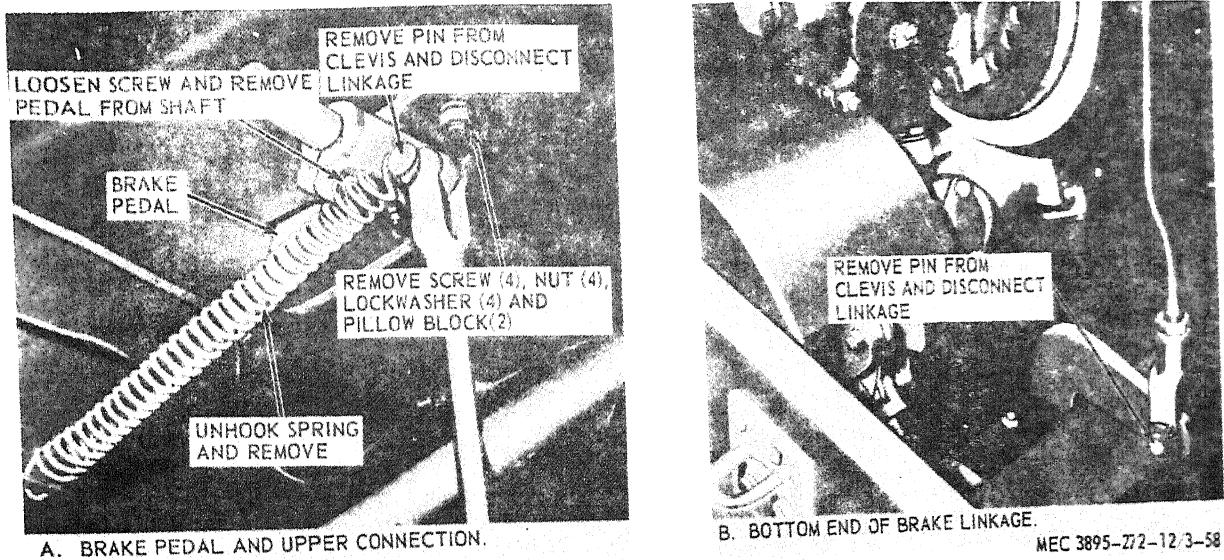

Figure 3-58. Service brake pedal and linkage, removal and installation.
a. *Removal.* Remove the foot brake pedal and linkage as instructed on figure 3-58.
- (1) Clean all parts with an approved cleaning solvent.
- (1) Install the service brake pedal and linkage in reverse of the instructions on figure 3-58.
- (2) Adjust the service brake (para 3-15).